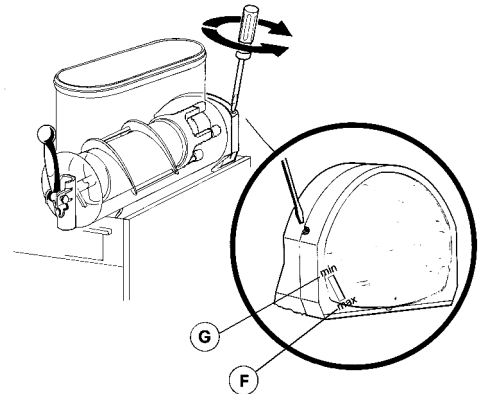

figure 6
**1 Granita viscosity adjustment:** proper Granita viscosity is factory preset. To change the viscosity, if needed, use a standard screwdriver to turn the adjustment screw located in the rear wall of each container as follows (see figure 6):